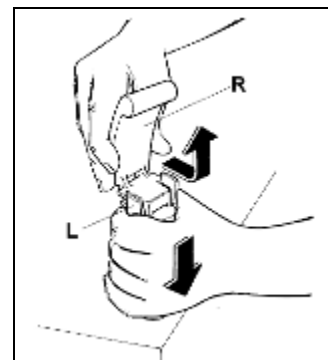

Fig. 4
- Disassemble the dispensing tap by keeping the indicated part (R) pressed down and slipping off the dispensing lever (L) (see figure 4).